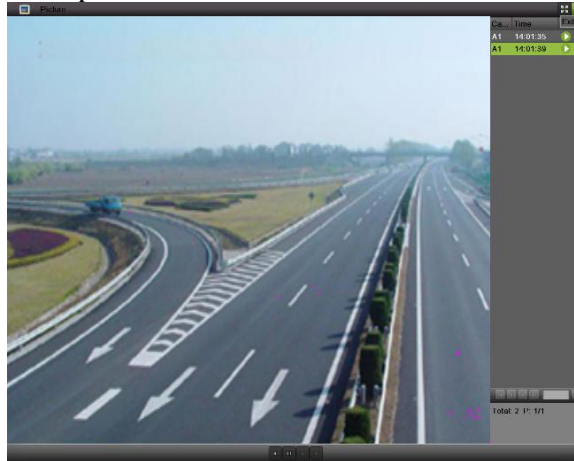

Figure 63 Picture Playback
9. Click  to play back the pictures in Full Screen mode, as shown in Figure 63.